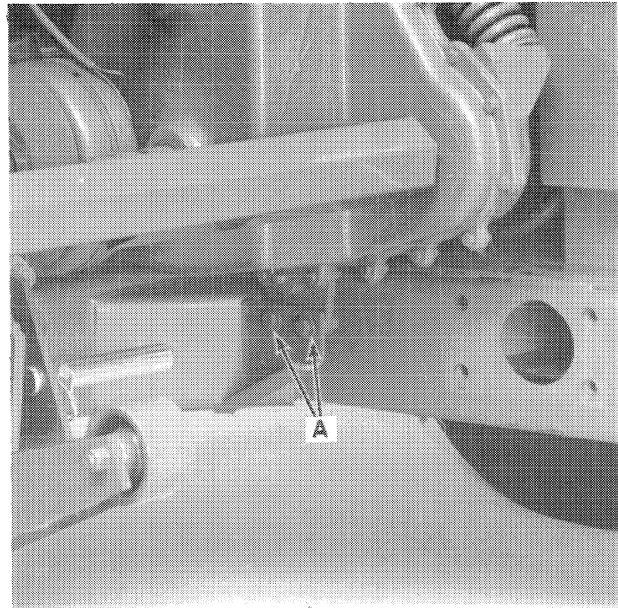

FIGURE 2-31
12. Support the gearbox, and then remove the two lower mounting bolts, A, Figure 2-31. Note the position of the shims located between the gearbox and mounting bracket.